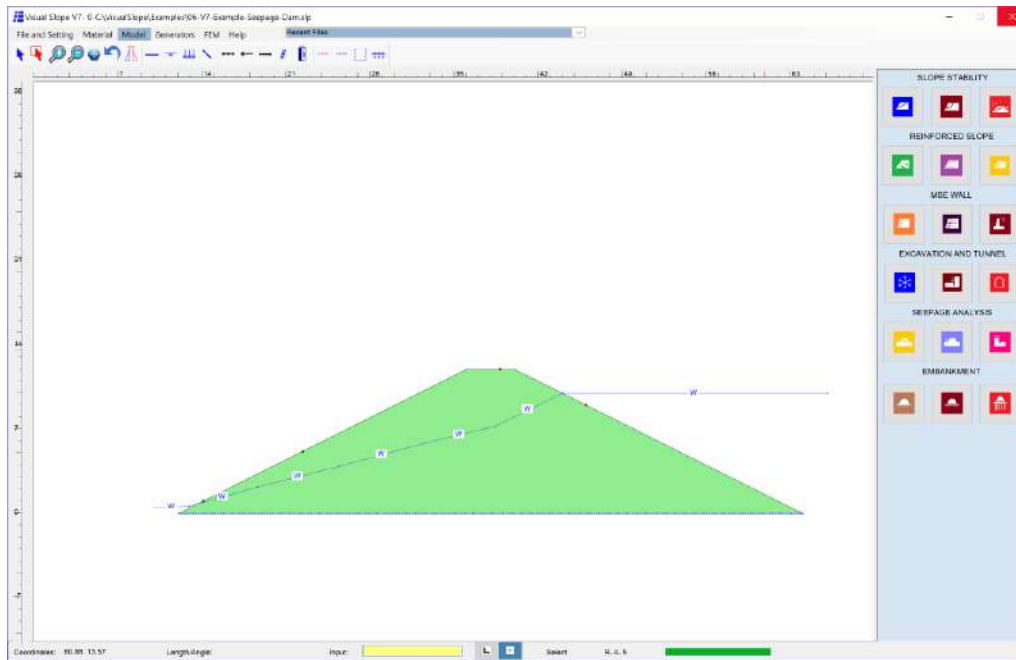
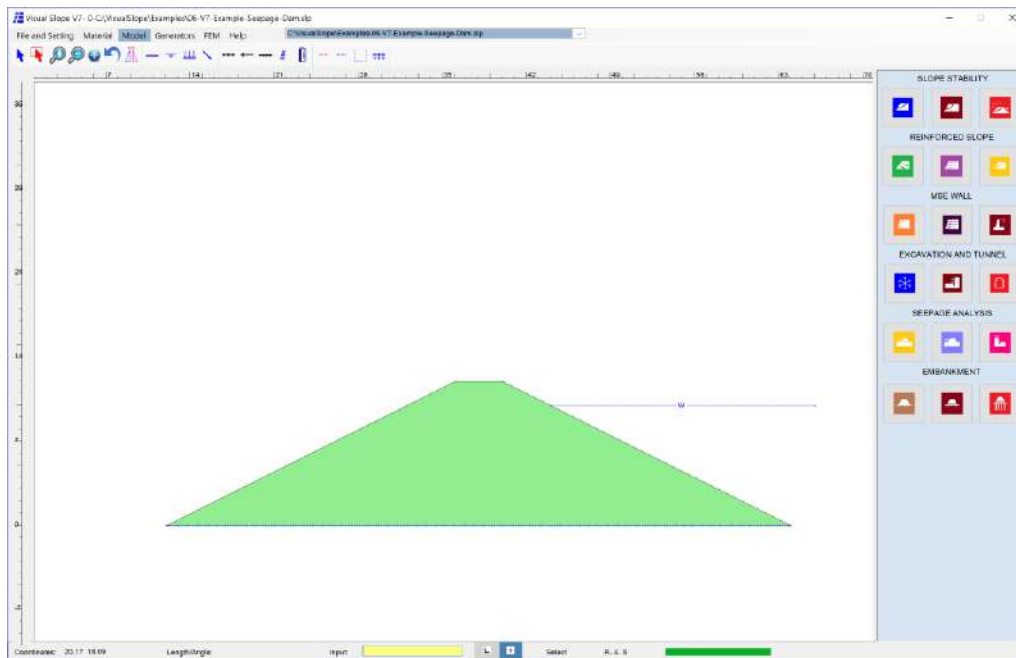

Figure 45: Slope Stability Analysis under Seepage Pressure
Figure 46: Slope Stability Analysis under Incompletely Defined Water Table
If water lines are across the entire model from the left to the right, as shown in Figure 45, seepage pressures will be automatically considered in regular slope stability analyses. However, in some cases, the water table under the ground surface is not clear, as shown in Figure 46. To correctly perform a slope stability analysis, three steps (shown below) must be taken.
2. Once the phreatic line is obtained, you can draw water lines by tracing the phreatic line and obtain Figure 45.